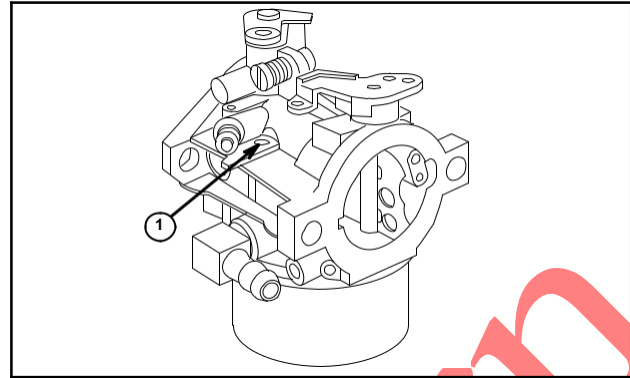

Fig. 103
NOTE: Some Low Emission LMT carburetors have pressed in pilot jets (1) that are not removable. DO NOT remove the pressed in style pilot jet, Fig. 103.